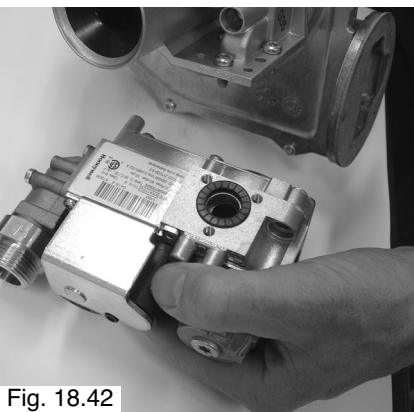

Fig. 18.42
5. Remove the gas valve from the venturi. (Fig. 18.42);